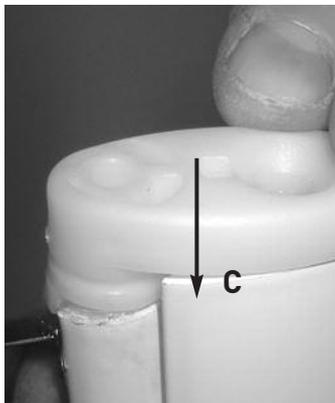
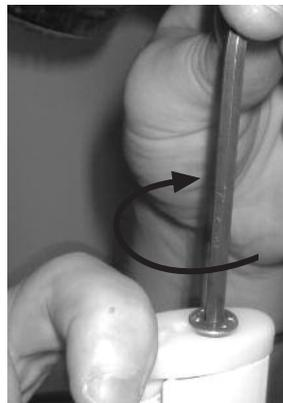

Figure a7
Figure a7i
7. Once the Curved Screen (C) is pushed completely down onto the top of the Bottom Swivel Moulding as in Stage 6, fix the Top Swivel Moulding over the top of the Curved Screen and Fixed Panel (B) (Figure a7). With the Allen Key (I) supplied secure the Top Swivel Moulding (Figure a7i).